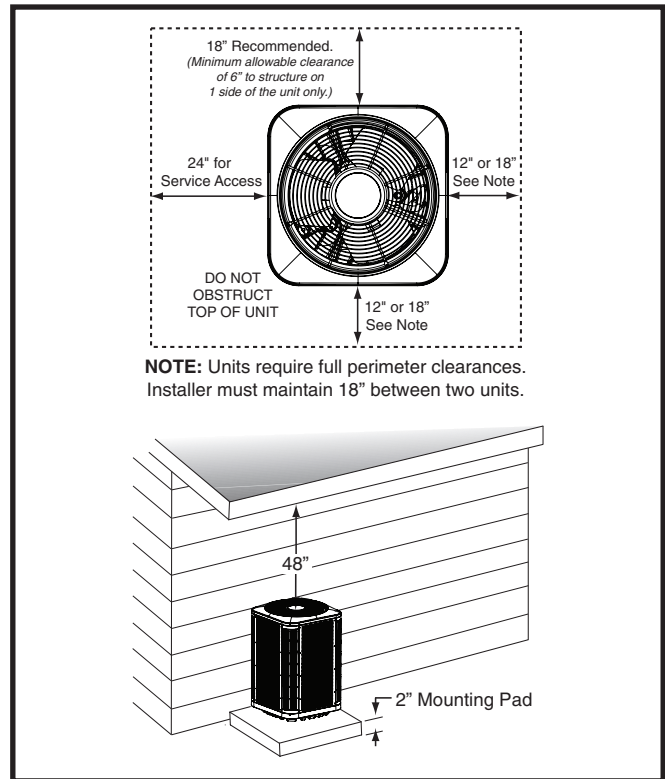

Figure 1. Clearance Requirements
- Overhead obstructions, poorly ventilated areas, and areas subject to accumulation of debris should be avoided. See Figure 1.
- Sufficient clearance for unobstructed airflow through the outdoor coil must be maintained in order to achieve rated performance. See Figure 1 for minimum clearances to obstructions.